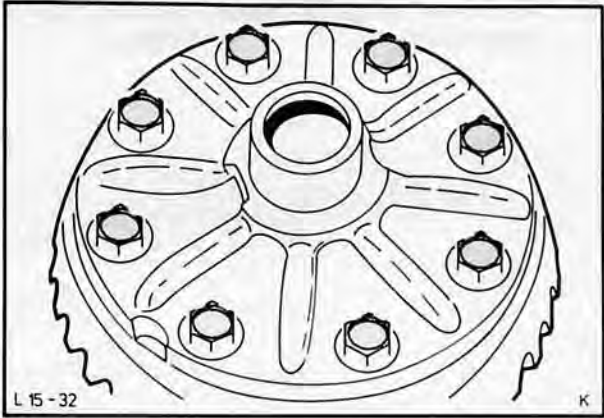

Fig. 104. Detach crown wheel from differential housing
- 8. Detach crown wheel from differential housing (8 bolts), Fig. 104, by slackening 3 bolts spaced out on the periphery (remove rest completely) so that crown wheel can be removed by tapping the bolt heads.